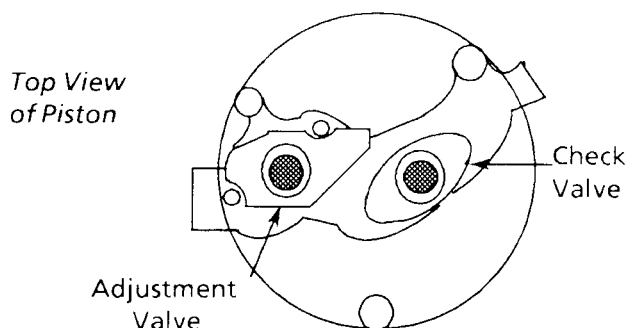

Figure 4-13. Bulletin 810 Relay Operating Time Adjustment
- 4-5.1.2 Operating Time Adjustment** - Unless ordered with a specified time delay setting, the relays are set for minimum time delay when shipped. To increase the time delay, remove the piston from the dashpot and decrease the opening of the adjustment valve (Fig. 4-13) by rotating its cover counterclockwise. Time settings should be verified by electrical tests after the adjustment has been made.